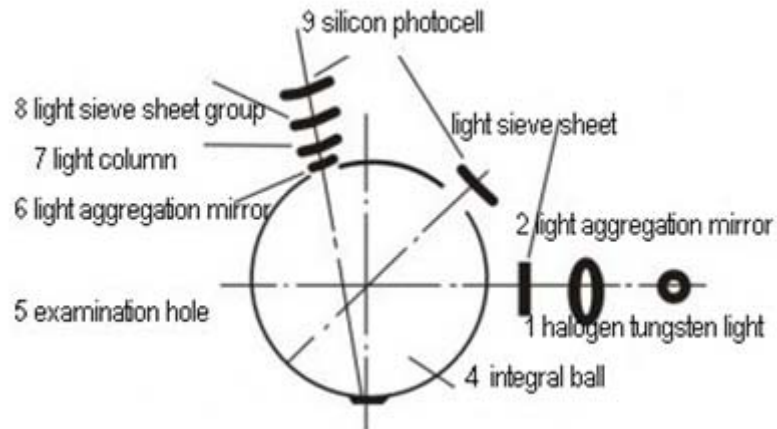

Figure 1
The instrument achieves the absolute spectrum diffuse reflection measurement by the integral ball. The optic principle is shown in Figure 1. Light was emitted from halogen tungsten light (1), the beam turn to blue purple light through the light aggregation mirror(2) and the light sieve sheet(3), then the light which entered the integral ball(4) would be diffuse reflected by the inner wall and irradiated on the sample in the examination hole(5), through the light aggregation mirror(6), light column(7) and the light sieve sheet group (8), the light which is reflected by the sample would be absorbed by the silicon photocell (9) and be turned to electric signal. The fundus signal of the integral ball was absorbed by the other line of silicon electric eye. Two lines of electric signal would be amplified separately and treated at the same time. The measure result would be digital displayed, and could be printed by the inner printer.